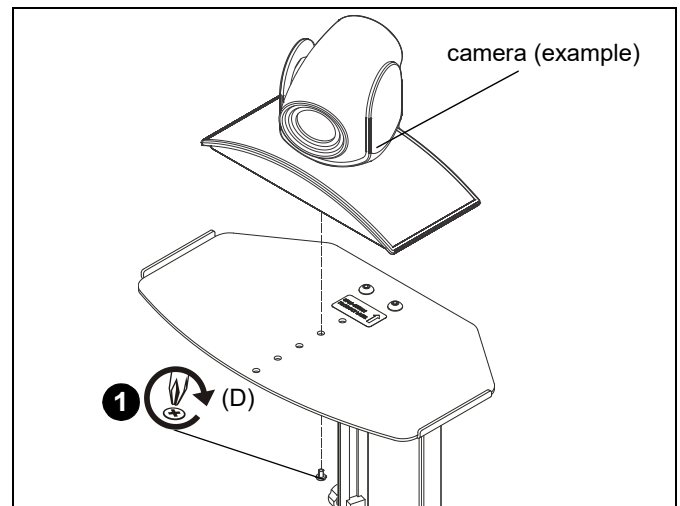

Figure 3
1. Install 1/4-20 x 3/8" Phillips pan machine screw (D) through holes on shelf and into hole on bottom of camera. (See Figure 3)